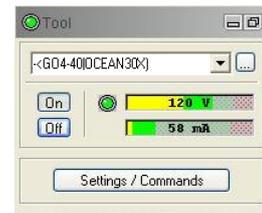

Figure 4-1 Tool panel
2. Select the relevant QL40 OCEAN tool from the drop down list (Figure 4-1) in the software's **Tool** panel (if your tool is not listed check that your tool configurations file is stored in the designated folder on your computer).
4. On the **Tool** panel (Figure 4-1) click the **Settings / Commands** button to configure your tool (see chapter 4.4 for details).